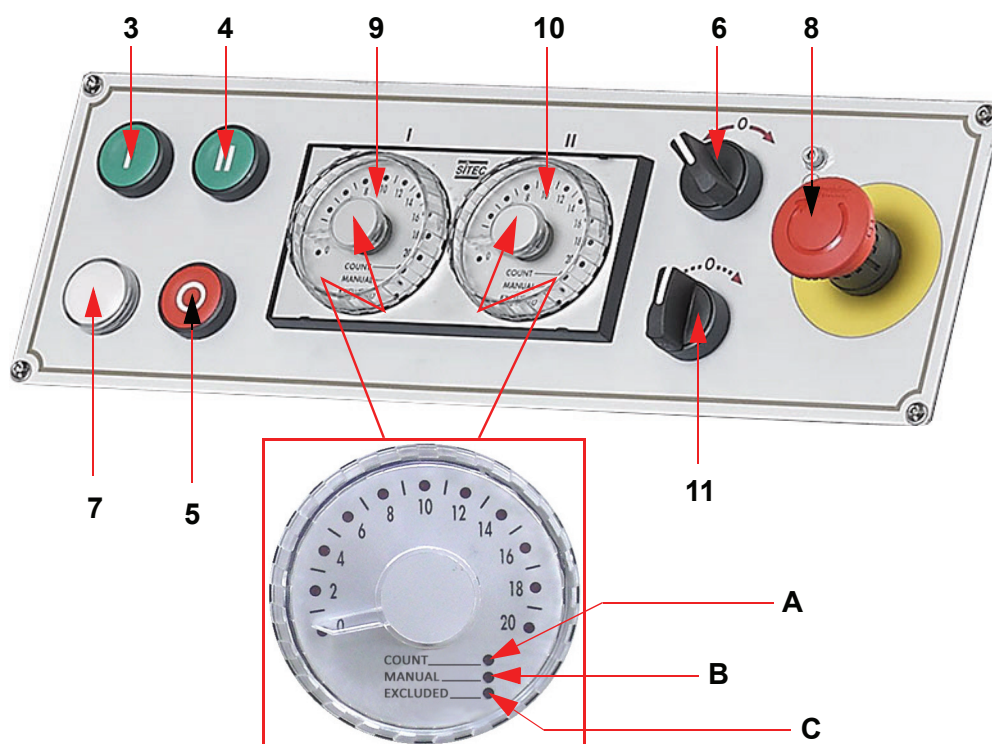

Fig. 10 Control panel
- 5) set a minimum time on the timer (**ref. 9 - Fig. 10** on page 39);
- 6) press the 1st speed start button (**ref. 3 - Fig. 10**);
- 8) Press the button (**ref. 5 - Fig. 10**) to stop the machine.
- **If a hazardous situation arises**, press the mushroom-head button (**ref. 8 Fig. 10** on page 39) to trigger the emergency stop.
- 2) reset the mushroom-head button (**ref. 8 Fig. 10**);
- 3) press the start button (**ref. 3 Fig. 10**) for low speed operation;
- 5) press the start button (**ref. 4 Fig. 10**) for high speed operation.
- **To stop the machine**, press the stop button (**ref. 5 Fig. 10**).
- 1) press the machine stop button (**ref. 5 Fig. 10**);
- 3) make sure that all safety equipment is in place and operational: mobile guard interlock (**ref. 5 Fig. 16** on page 61) and mushroom-head button (**ref. 8 Fig. 10** on page 39) to trigger the emergency stop;
- 4) make sure that all hold-to-run controls are in place and operational (**ref. 11 Fig. 10**);
The control panel (**Fig. 10**) includes:
Turn the collars to set the durations of the low and high speed cycles. Press the start button to start the count, which is indicated by the flashing of the “COUNT” (LED **Ref. A Fig. 10 on page 39**) and the indicator LED bar or displays (where applicable).
To operate the machine manually, turn the collar all the way anticlockwise. This mode is indicated by the “MANUAL” (LED **Ref. B Fig. 10**). To cut out the automatic low speed count, turn the LH collar to the “MANUAL” position; do the same with the RH collar to cut out the automatic high speed count. The machine is now controlled completely manually with the external start and stop controls.
When the collar is set to 0, the “EXCLUDED” (LED **Ref. C Fig. 10**) lights up. In this case the machine may not operate with the external start and stop controls. If, for example, the LH (low speed) timer collar is set to “EXCLUDED”, the machine will run only at high speed.
- 4) Check that the warning light (**ref. 7 Fig. 10 on page 39**) is on.
- 6) Set on the timer (**ref. 9 Fig. 10**) the duration of the low speed cycle, as instructed in “**6.4 Correct use of the machine**” on **page 37** (at least 2 minutes).
- 7) Set on the timer (**ref. 10 Fig. 10**) the duration of the high speed cycle.
- 8) Turn the switch (**ref. 6 Fig. 10**) to the right-hand position to rotate the tank clockwise, or to the left-hand position to rotate the tank anticlockwise; the movement can be inverted or stopped (switch position 0) at any time.
- 9) Press the start button (**ref. 3 Fig. 10**) for low speed operation.
When the low speed cycle timer count has expired (**ref. 9 Fig. 10**), the machine will automatically start the high speed cycle, which lasts for the duration set on the timer (**ref. 10 Fig. 10**).
After at least 2 minutes of low speed operation, if the flour in the tub is well amalgamated with the water and no free powder is visible, you may run the machine manually at high speed by pressing the button (ref. 4 Fig. 10 on page 39).
- 11) Press the three-position switch 11 (**ref. 11 Fig. 10**) to run the tub in jog mode when the mobile guard is raised, so as to move all the dough towards the kneading tool.
- **automatically:** when the kneading cycles set on the timers (**ref. 9 and 10 Fig. 10**) have expired, the tool automatically shuts down;
- **manually:** press the machine stop button (**ref. 5 Fig. 10**) to stop the machine under normal circumstances;
- **in an emergency:** press the mushroom-head button (**ref. 8 Fig. 10**) or raise the mobile guard (**ref. 10 Fig. 4**) on the tub.